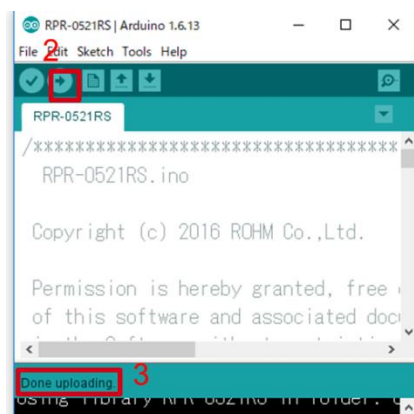

Figure 4. Uploading
2. Write the program by pressing right arrow button for upload (Figure 4)
3. Wait for the message "Done uploading" (Figure 4)